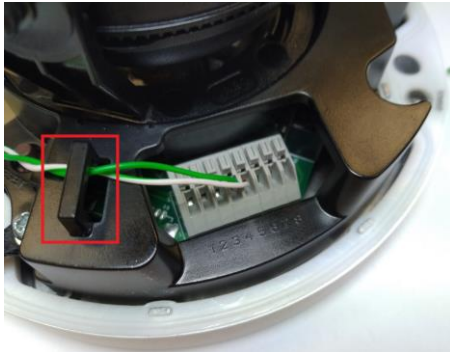

Figure 1-90
6. Thread the Ethernet cable through the PG21 conduit connector and the power box, as shown in No 6, *Figure 1-90*. Then connect the cable to the camera.
7. Rotate the plastic ring to secure the conduit connector to the power box. Screw in the cap shown in No 7, *Figure 1-90*.